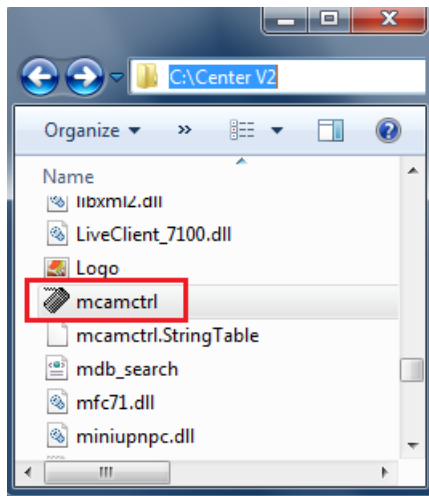

Figure 4
1. If you add or remove a GV-Joystick V2, the corresponding GV-IP device may be automatically adjusted. In this case, click the **Refresh** button (Figure 4) and check the mapping order of your GV-Joystick V2.